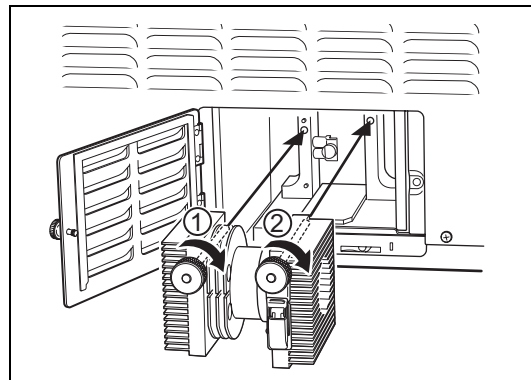

Figure 5.4
- 1** Hold the lamp cartridge so that the two screws on the lamp cartridge are at the front and fully insert it into the housing while keeping it straight. (Refer to Figure 5.4.)